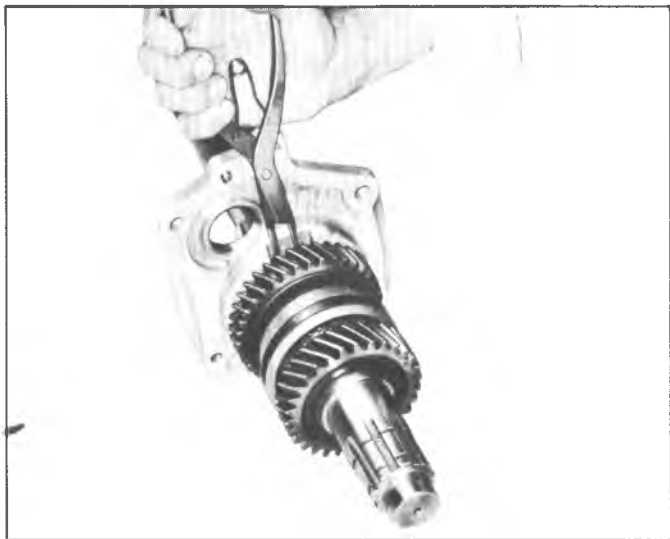

Fig. 10B-Removing Rear Bearing Retainer
16. Spread rear bearing retainer snap ring and press mainshaft out of the retainer (fig. 10B).
9. Install the rear bearing retainer (fig. 10B). Spread the snap ring in the plate to allow the snap ring to drop around the rear bearing and press on the end of the mainshaft until the snap ring engages the groove in the rear bearing.